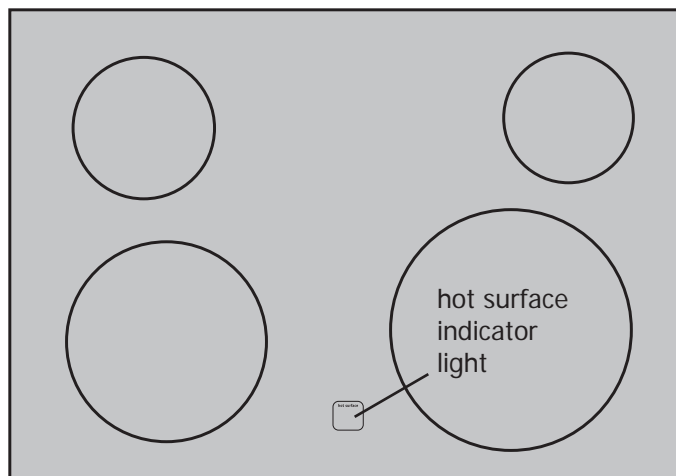
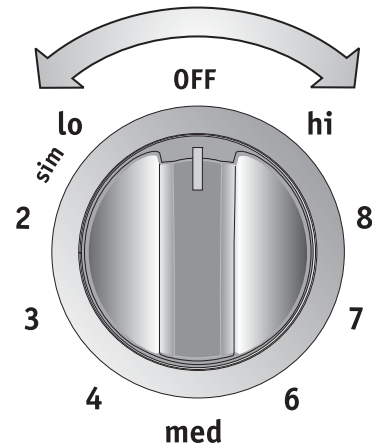

Figure 2 - Model C only
Figure 1 -Control knob shown is typical only.
The **hot surface** indicator light located on the cooktop (Figure 2) will glow when any surface cooking area heats up and will remain on until the glass cooktop has cooled to a MODERATE level.
2. Push in and turn the surface control knob in either direction to the desired setting (Figure 1).
On model A, the oven is vented **through the right rear coil element** (Figure 1) and on models B & C, the oven vent is located **through the upper front trim** and visible when the oven door is open (Figure 2). When the oven is on, warm air is released through the vent. This venting is necessary for proper air circulation in the oven and good baking results. **DO NOT** block the vent. Doing so may cause cooking failures, fire or damage to the appliance.
(Figure 1)
(Figure 2)